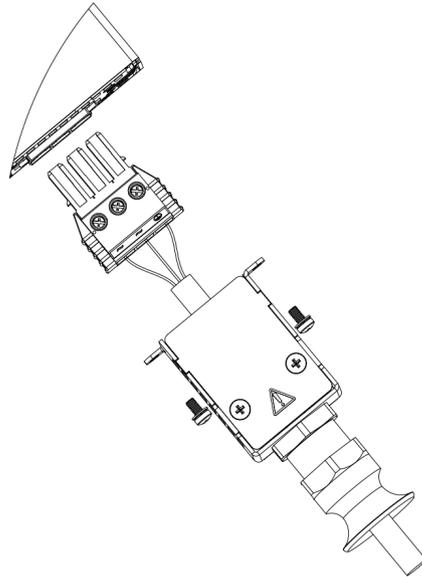

Figure 4-19: AC Wires Fixed to the AC Connector
6. Insert the AC wires into the AC input connector as shown in Figure 4-19.